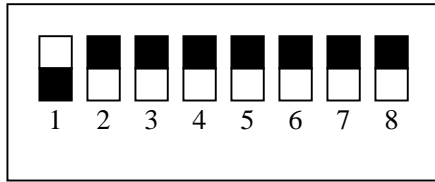

Figure 15.1 DIP Switch
① Set the Dip switch No.1 as shown in figure 15.1.